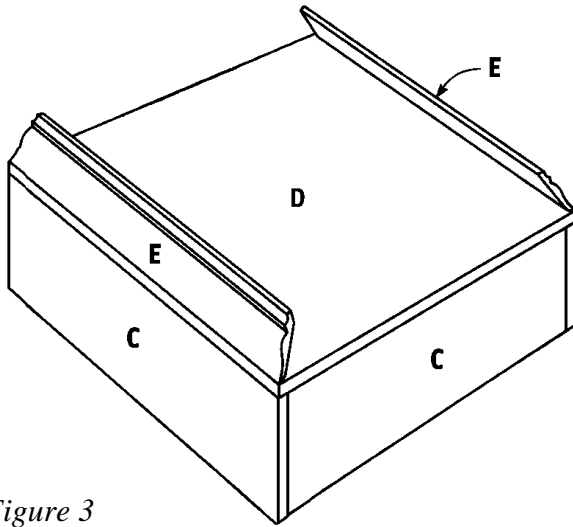

Figure 3
1. Place the assembled lid on a flat surface, with the Lid Top (D) facing up.
2. Cut two Long Top Trims (E) from 3-1/4"-wide crown molding at a compound 45-degree angle, each measuring 15-1/8-inches. Attach the two Long Trims (E) on the long sides of the Lid Top (D) as shown in *Figure 3*.